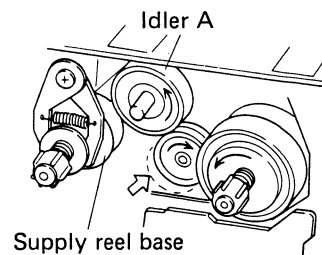

Fig. 5-7 FF Operation
2. Since the pinch roller is separated from the capstan at FF operation, the tape is wound at high speed (see Fig. 5-7).